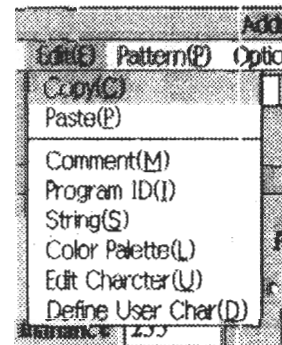

Figure 4-20
② "Edit(E)" pull-down menu (Figure 4-20)